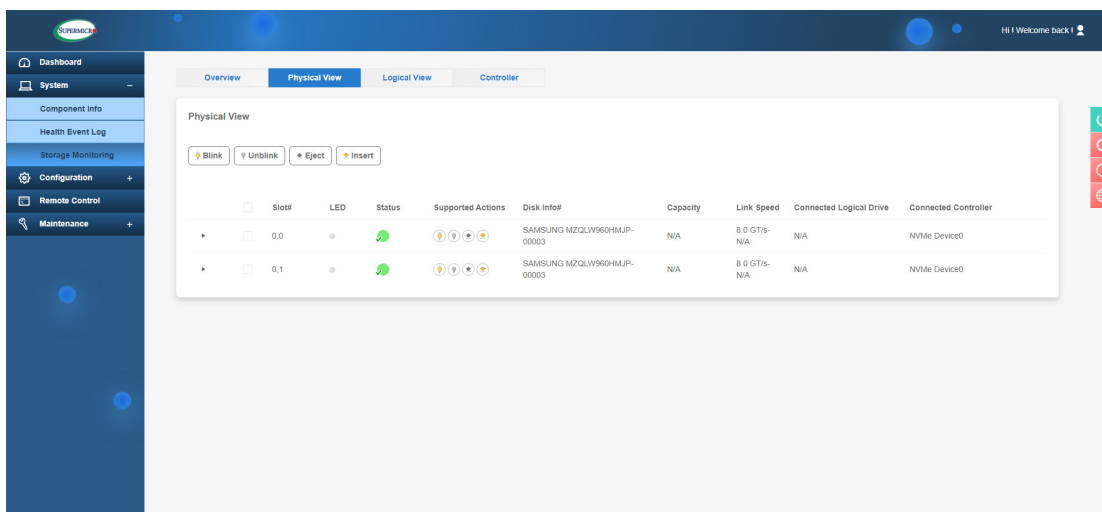

Figure 3-12. IPMI Screenshot
- **IPMI > Server Health > NVMe SSD** – Shows the temperatures of all NVMe drives, as in Figure 3-12.